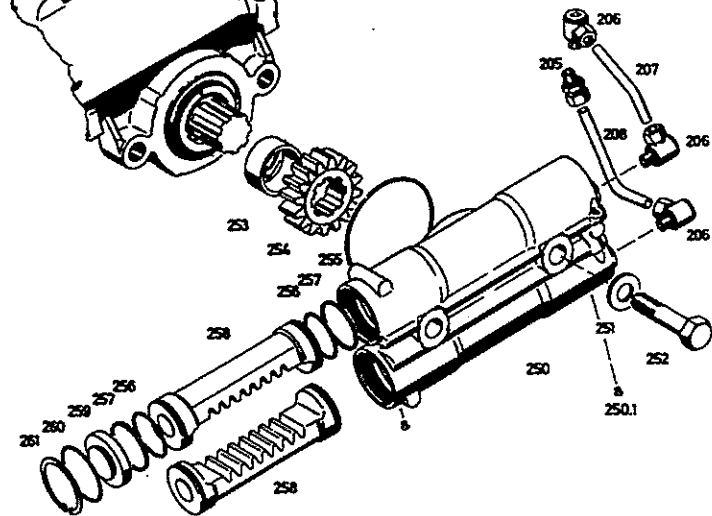

Fig.8
Remove piping (225 and 226) and pipe unions (205 and 206) in the case of versions with add-on cylinder (250) see **Fig.8**.
Unscrew hexagon screws (252) with washers (251) and remove add-on cylinder (250) (*Fig.8*).